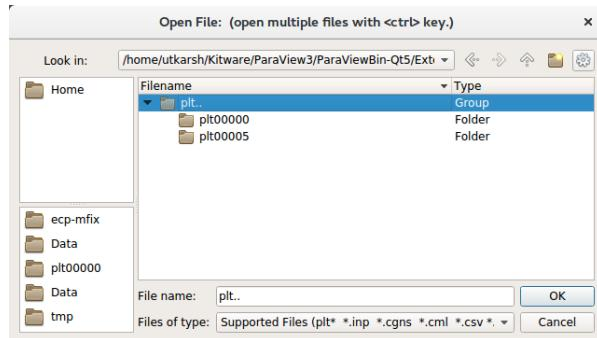

Fig. 16.2: File dialog in ParaView showing a group of plotfile directories selected
2. Navigate to your run directory, and select the fluid or particle plotfile. Note that you can either open single/multiple plotfile(s) at once by selecting them one by one or select an ensemble of file, labelled as `plt..` and indicated as a Group in the “Type” column of the file explorer (see Fig. 16.2). In the later case, Paraview will load the plotfiles as a time series. ParaView will ask you about the file type – choose “AMReX/BoxLib Grid Reader” or “AMReX/BoxLib Particles Reader”.
1. Run ParaView v5.7, and select then “File” → “Open”. You will see a combined “plt.” group. Click on “+” to expand the group, if you want inspect the files in the group. You can select an individual plotfile directory or select a group of directories to read them a time series, as shown in Fig. 16.2, and click OK. ParaView will ask you about the file type – choose “AMReX/BoxLib Particles Reader”.